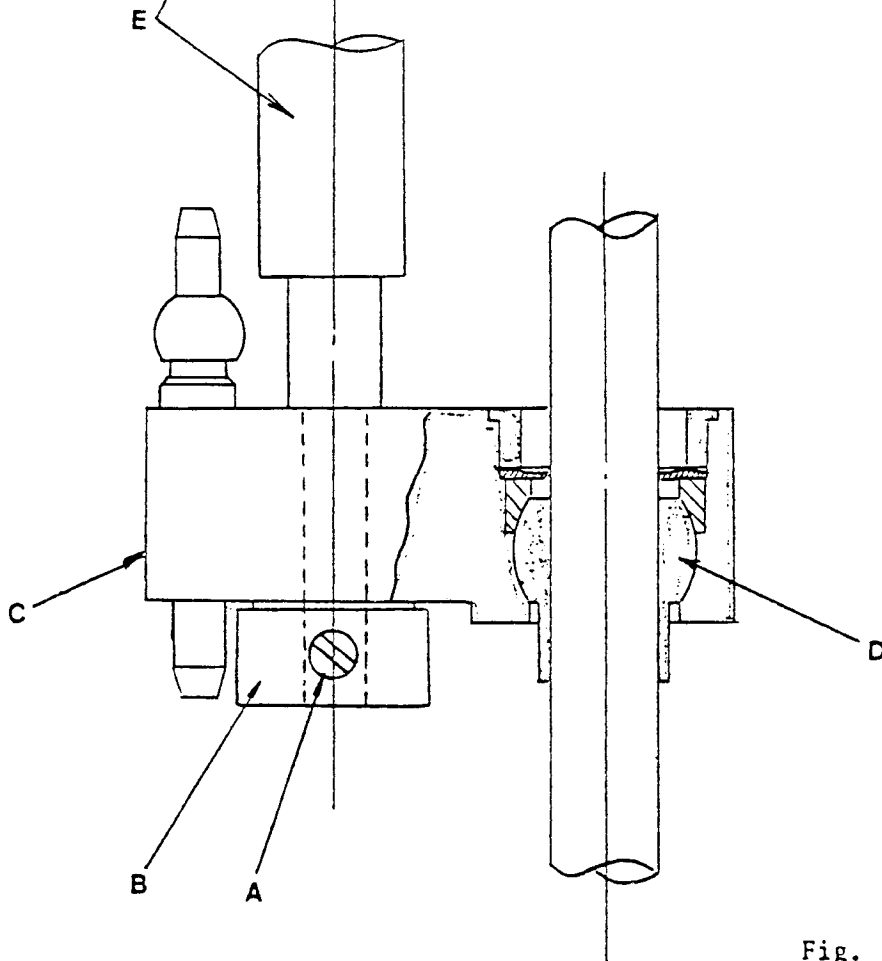

Fig. 3-2
There should be no vertical looseness in the upper needle bar ball bushing (D) held in the needle bar vibrating bracket (C), yet it must function freely. (Fig. 3-2).